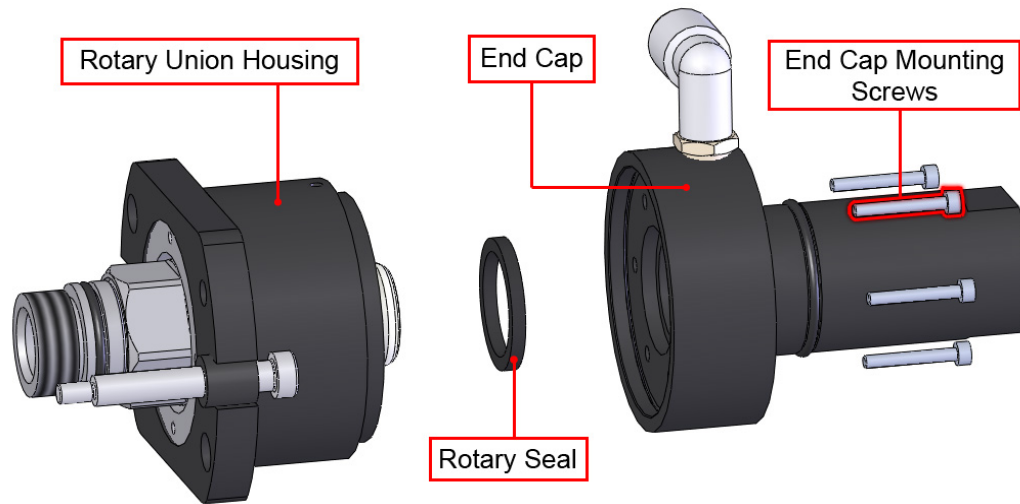

Figure 4-10: Rotary Seal Installation / Removal
Step 4: Carefully pull the end cap off of the rotary union housing. The rotary seal and rotary union shaft will now be exposed. Figure 4-10 shows an exploded view of the seal assembly.